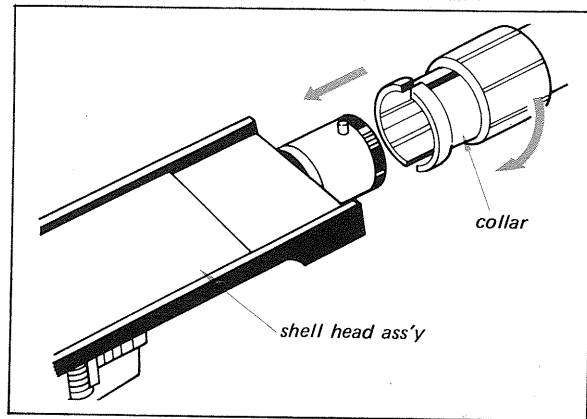

Fig. 2-5. Shell head removal
1. Remove the shell head assembly from the tone-arm by loosening the collar as shown in Fig. 2-5.